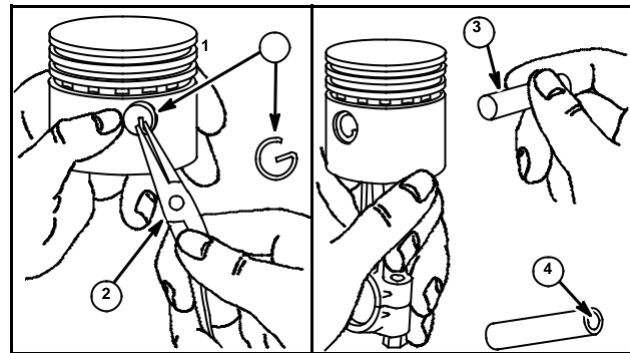

Fig. 2
1. Remove a piston pin lock (1) with needle nose pliers (2). One end of the pin (3) is recessed (4) to facilitate removal of the lock, Fig. 2.